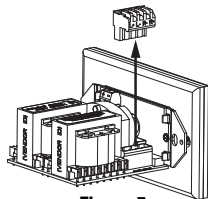

Figure 5
3. Locate the Snap and Lock connectors and remove them if they are plugged in. **See figure 5.**